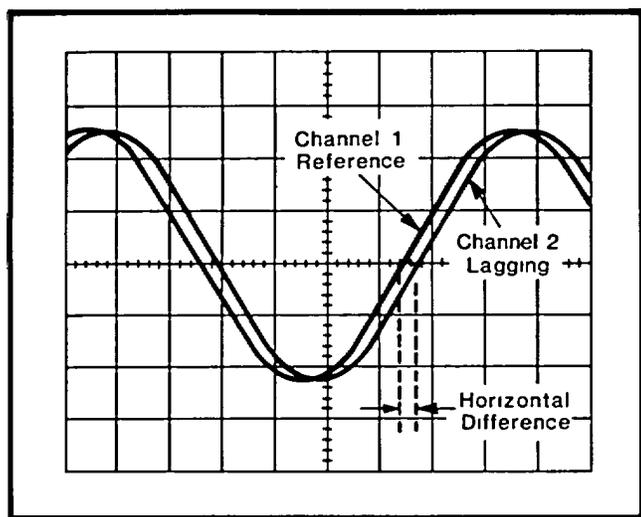
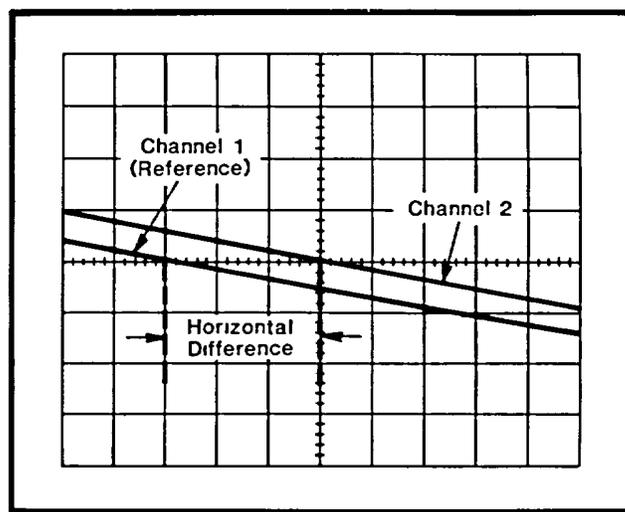

Fig. 1-6. Measuring phase difference between two signals.
Fig. 1-7. High resolution phase measurement using time-base magnifier.
8. Adjust the time-base Variable Time/Div control until one cycle of the reference signal occupies exactly eight horizontal divisions between the second and tenth vertical lines of the graticule (see Fig. 1-6). Each division of the graticule represents 45° of the cycle (360° / 8 divisions = 45°/division). The sweep rate can now be stated in terms of degrees as 45°/division.
EXAMPLE: Assume a horizontal difference of 0.3 division with a sweep rate of 450/division as shown in Fig. 1-6.
EXAMPLE: If the sweep rate is increased 10 times by the Magnifier, the magnified sweep rate is 450/division ÷ 10 = 45°/division. Fig. 1-7 shows the same signals as used in Fig. 1-6 but with the Magnifier set to x10. With a horizontal difference of 3 divisions, the phase difference is: